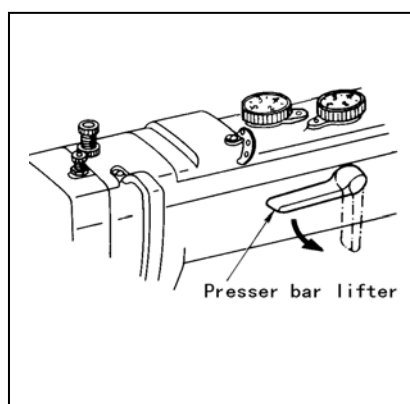

Fig.24
27、 Presser bar lifter (Fig.24):